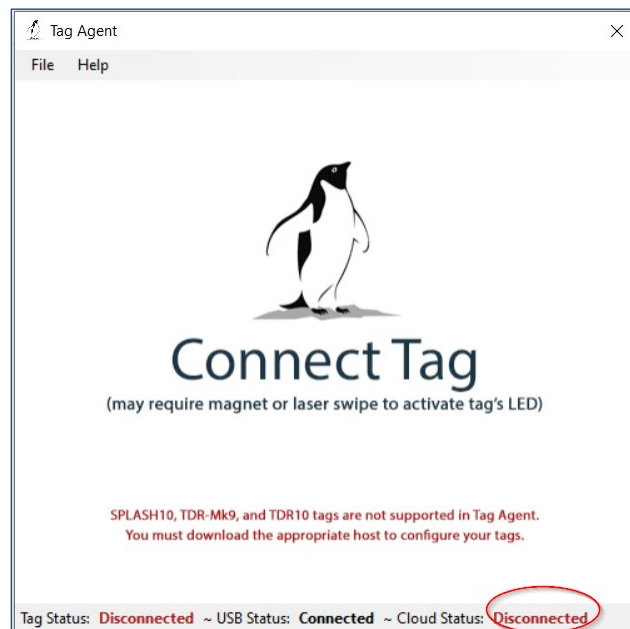

Figure 11—Internet status.
- If the tag's internal clock needs adjusting, select "Yes" to the pop-up box that appears, as well as the Date/Time Picker (Figure 11 —sometimes the Picker hides in the upper left corner of the screen).
Use the “Download WCH” button on the Tag Agent top menu bar to download Benthic SPAT archival data (Figure 11). You will be prompted to save the .wch file to your computer. The file can then be uploaded into the Data Portal for decoding, analysis, and storage.